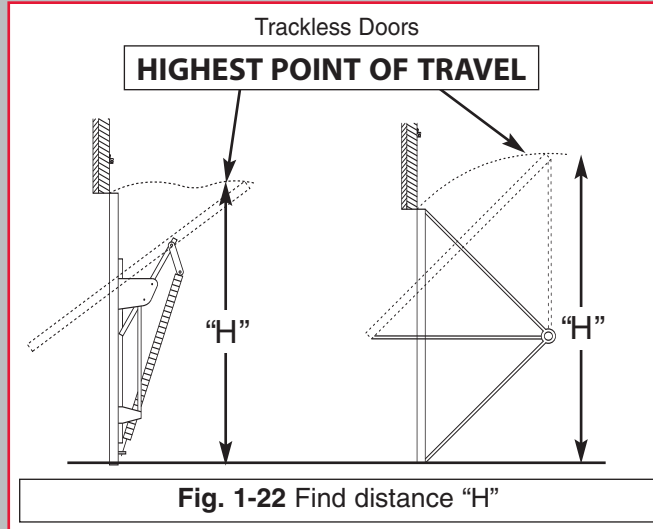

Fig. 1-22 Find distance “H”
- Measure distance from top edge of door to floor (distance “H”) (Fig.1-22).